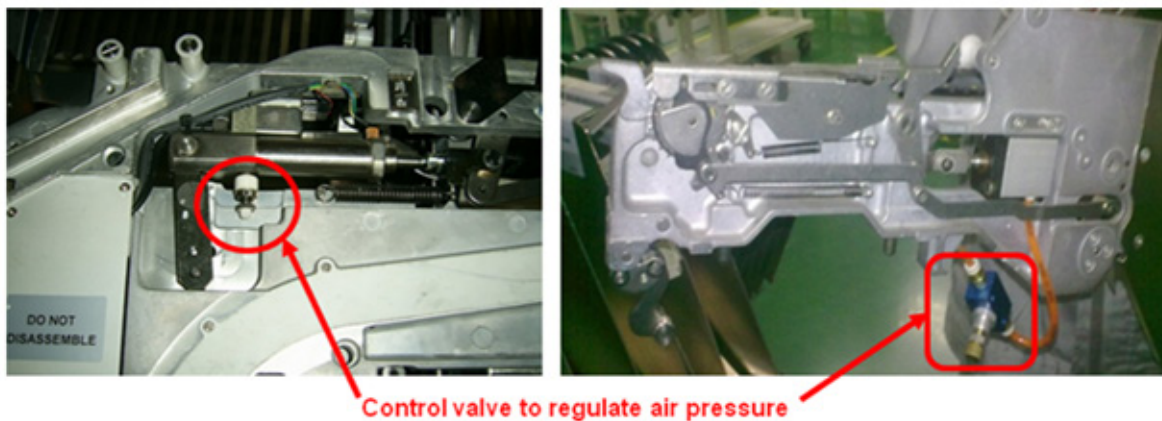

Figure 20. Pneumatic feeder with integrated air pressure control valve (left) and pneumatic feeder with air pressure control valve installed afterwards (right).
- a. **Install an air pressure control valve.** In some pneumatic feeder designs, said control valve is already integrated by the machine supplier; in others, an external control valve may have to be installed (see Figure 20).